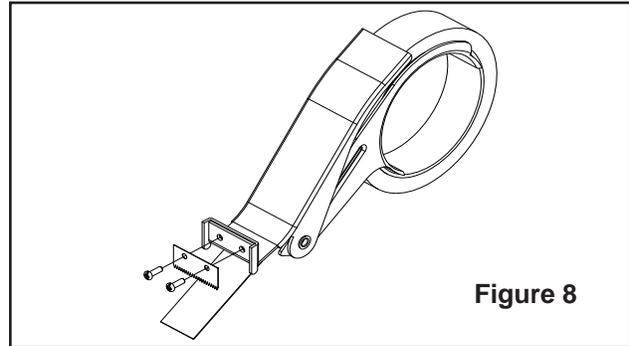

Figure 8
1. To replace the used blade, remove the mounting screws (**Figure 8**).